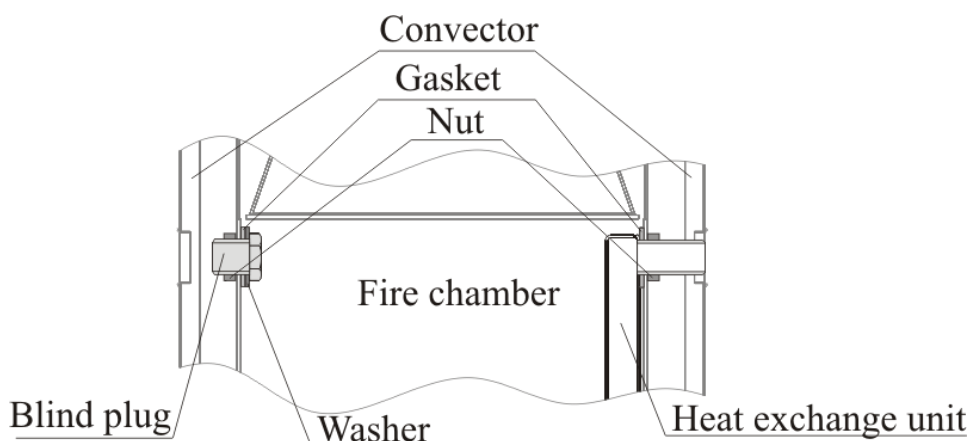

Figure 11. «Tunguska» sauna stove heat exchange unit and blind plugs disassembling
3. Remove the heat exchange unit (fig. 11) by unscrewing 2 nuts and taking it off the holes, the gaskets shall stay on the nipples;